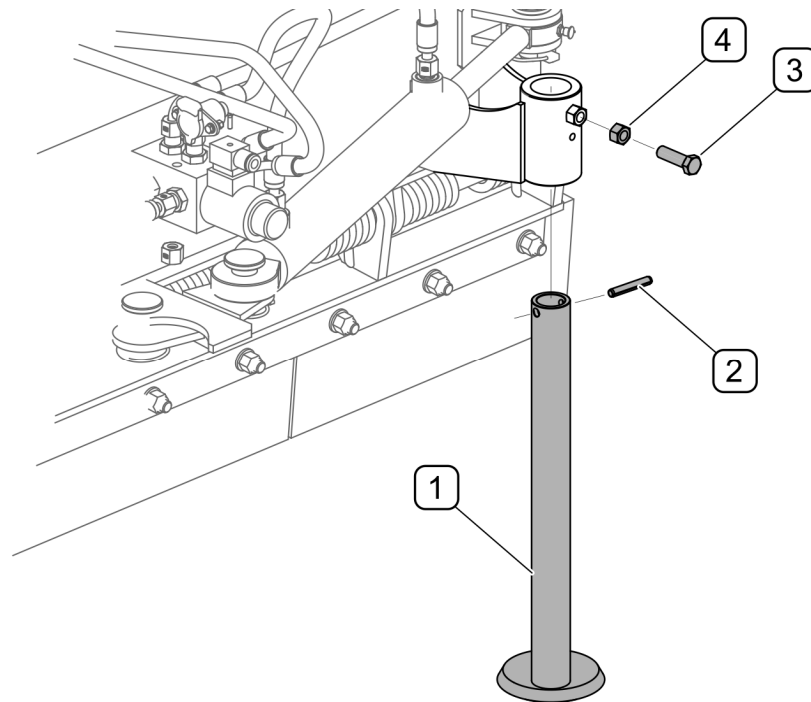

FIGURE 5.2 Slide replacement
(1) - slide; (2) - spring pin; (3) - M10x30-8.8 bolt; (4) - M10-8 lock nut
If the slides (FIGURE 5.2) are excessively worn or damaged, replace them with new. In order to do this raise the plough and support with sufficiently stable and strong supports. If the plough is hitched and raised on the carrier vehicle, protect it from falling and immobilise the carrier vehicle (turn off the engine and engage the parking brake.) Remove the spring pin (2), loosen the counter nut (4) and undo the bolt (3) securing the slide (1). Check the slide and other parts for damage. Install in reverse order. The right and left slide are replaced in the same way. The list of slide components with part numbers is presented in TABLE 5.2